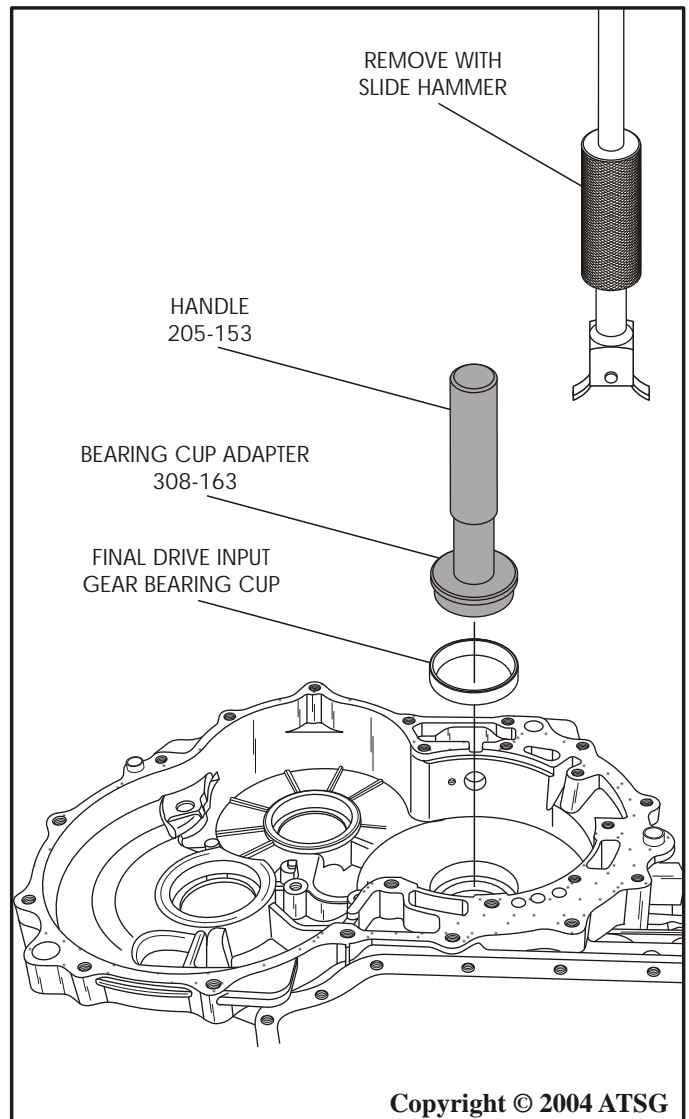

Figure 118
19. Remove all three bearing races from transaxle case using a slide hammer with proper adapter, as shown in Figure 118.
20. Install new final drive input bearing cup using the proper driver, as shown in Figure 118.